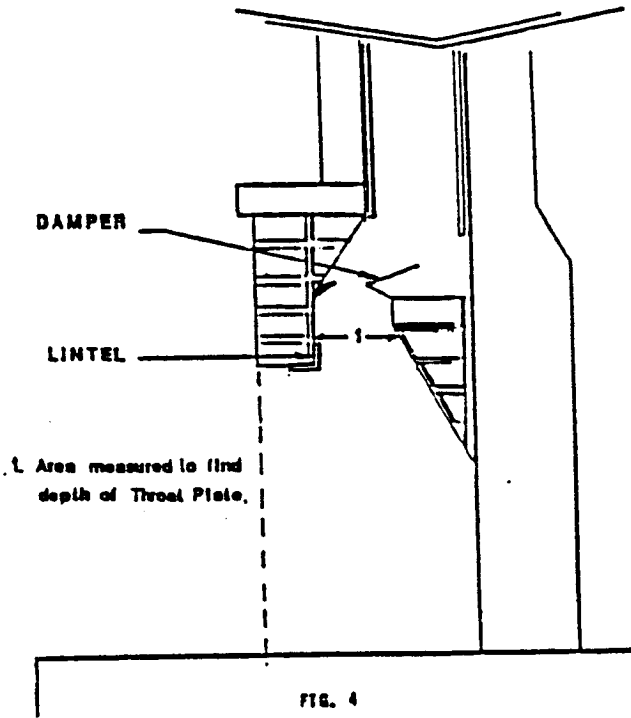

FIG. 4
2. Wire open or remove fireplace damper. (Figure 4, Page 9.)
1. Measure below damper area the width from side to side at rear of smoke chamber. (Figure 4)